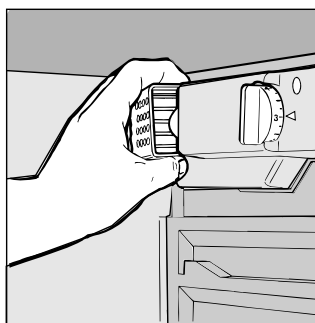

Fig. 3
- Replacing the light bulb. The bulb for lighting the interior of the refrigerator is located at the back of the thermostat box. When replacing the lamp, unplug the appliance from the electrical socket, unscrew the burned out lamp and replace it with another with a wattage no higher than 15W (fig. 3).